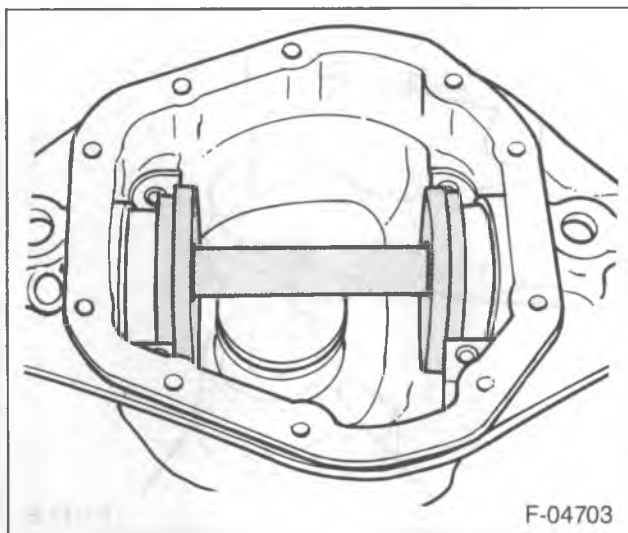

Figure 64—Arbor and Discs
3. Place D-116-2 onto D-115-3 (figure 64).